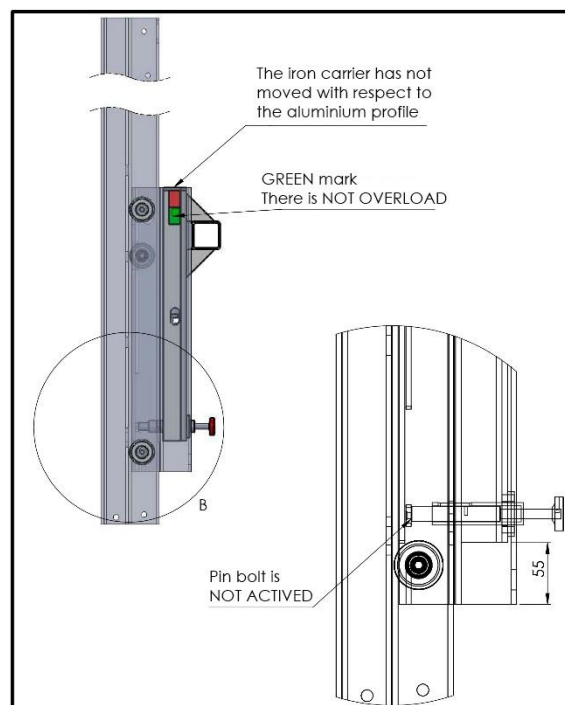

Figure 105
**If it is not calculated in each specific case of use, it is possible to take as base the data contained in the load chart (figure 105) operating the tower as mechanism for security purposes.**